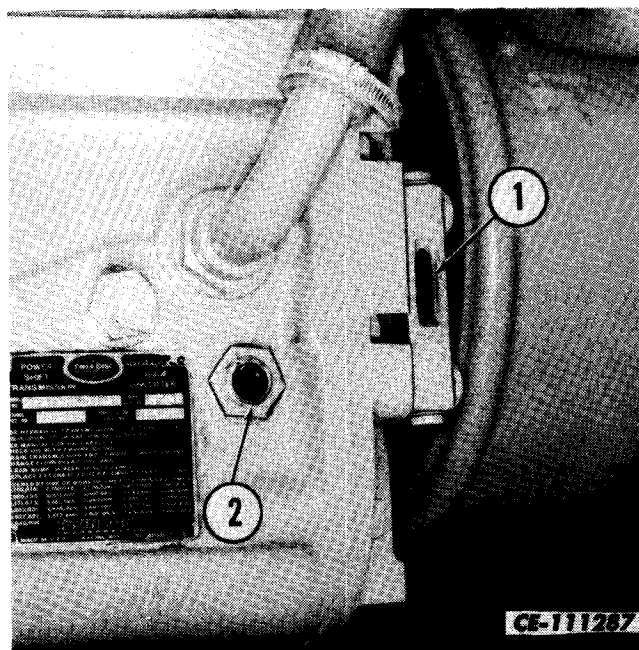
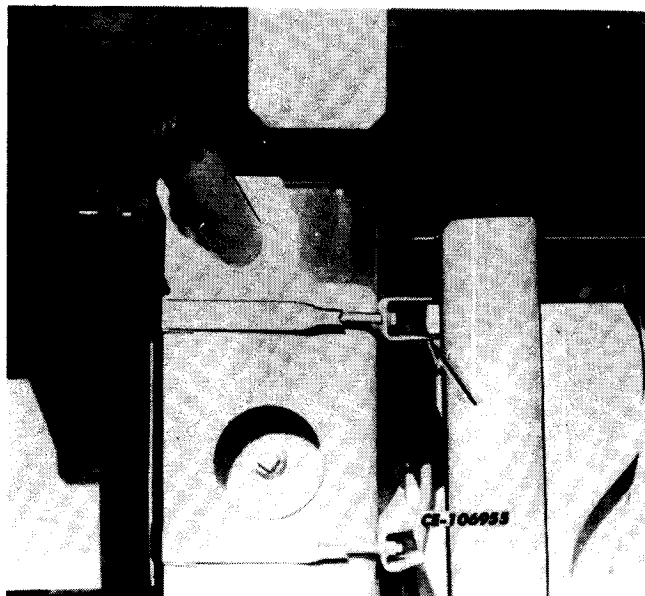

Fig. 6. Transmission Oil Level Sight Gauges
Fig. 7
1. With the machine on level ground, apply the parking brake and start the engine. With the engine operating at 1000 rpm and the transmission in neutral, check the oil level. The oil level should stabilize in the center of low oil level sight gauge (2, Fig. 6).
2. If the oil level is below the center of the low oil level sight gauge, remove the filler plug (Fig. 7), and add oil through the filler tube until oil appears in the center of the low oil level sight gauge. Refer to the "LUBRICANT SPECIFICATIONS AND CAPACITIES CHART" in this section for the grade of lubricant specified. Reinstall the filler plug.
4. With the engine running at low idle and the transmission in neutral, again check the oil level. The oil level should stabilize in the center of high oil level sight gauge (1, Fig. 6).
5. Remove the filler plug (Fig. 7) and add oil through the filler tube until oil appears in the center of high oil level sight gauge (1, Fig. 6). Refer to the "LUBRICANT SPECIFICATIONS AND CAPACITIES CHART" in this section for the grade of lubricant specified.